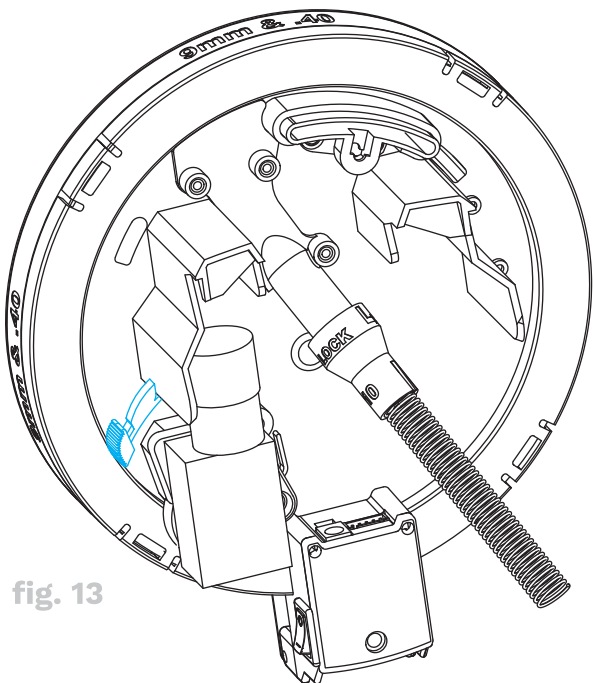

fig. 13
2. Locate the notched lever on the back of the Bullet Feeder (fig. 13) and press it down with your finger.